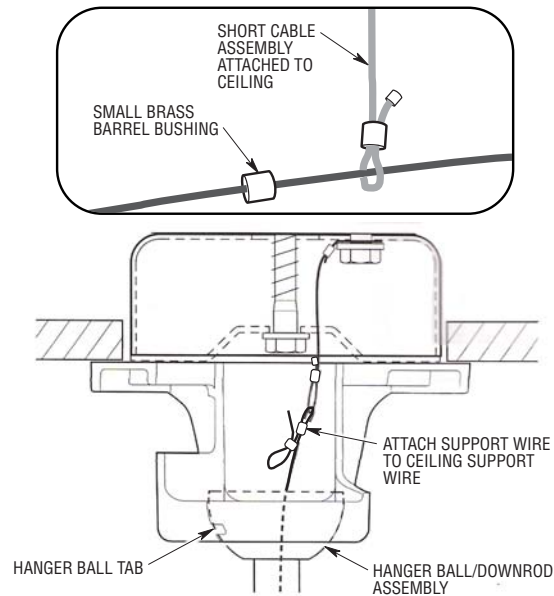

Figure 9
- 6. Carefully lift the fan assembly and seat the hangerball/downrod fan assembly into the hanger bracket. Be sure the groove in the hanger ball lines up with the tab on the hanger bracket (Figure 9).